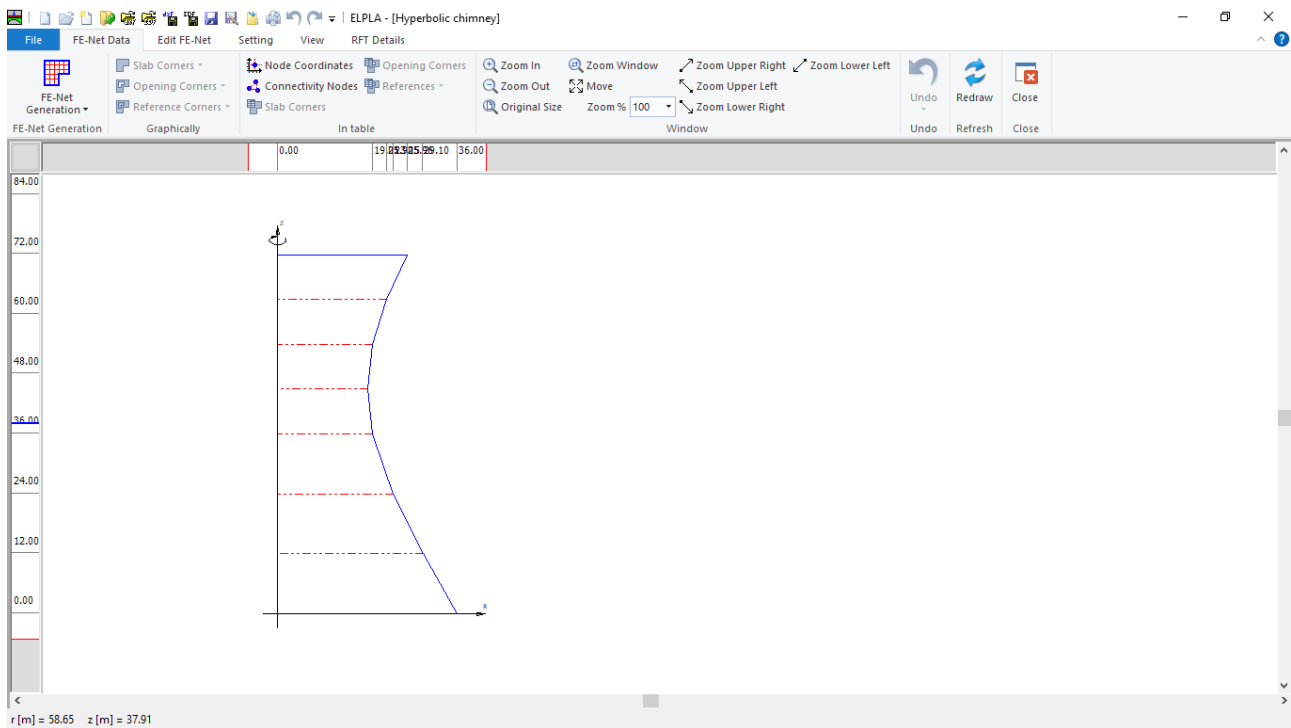

Figure 11.11 Generated FE-Net
After modifying the coordinates of the segments, click "Finish" button, the FE-Net of the chimney appears in Figure 11.11
- Choose "Save" command from "File" menu in Figure 11.11 to save the data of the FE-Net
- Choose "Close" command from "File" menu in Figure 11.11 to close the "FE-Net" window and return to *ELPLA* main window